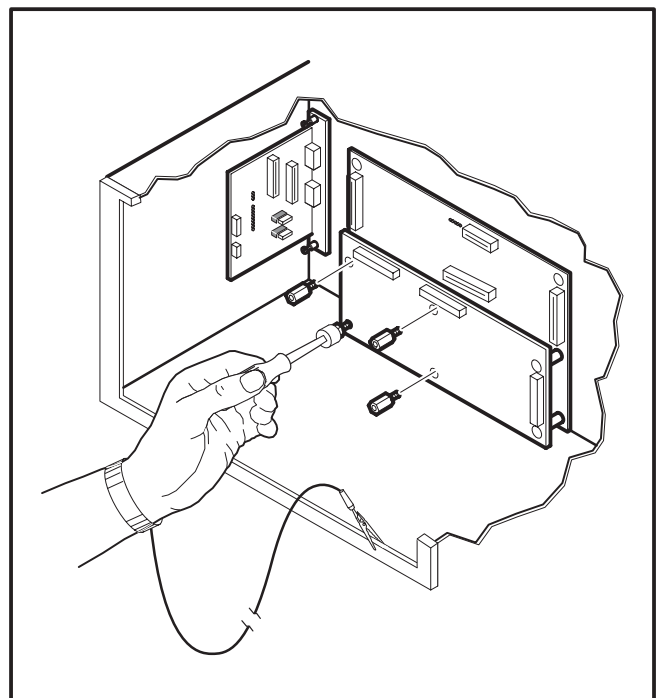

FIGURE 5-4. INSTALLING STANDOFFS
6. Install four new standoffs in place of the analog board mounting screws removed in step 5 (Figure 5-4). Tighten the standoffs securely.